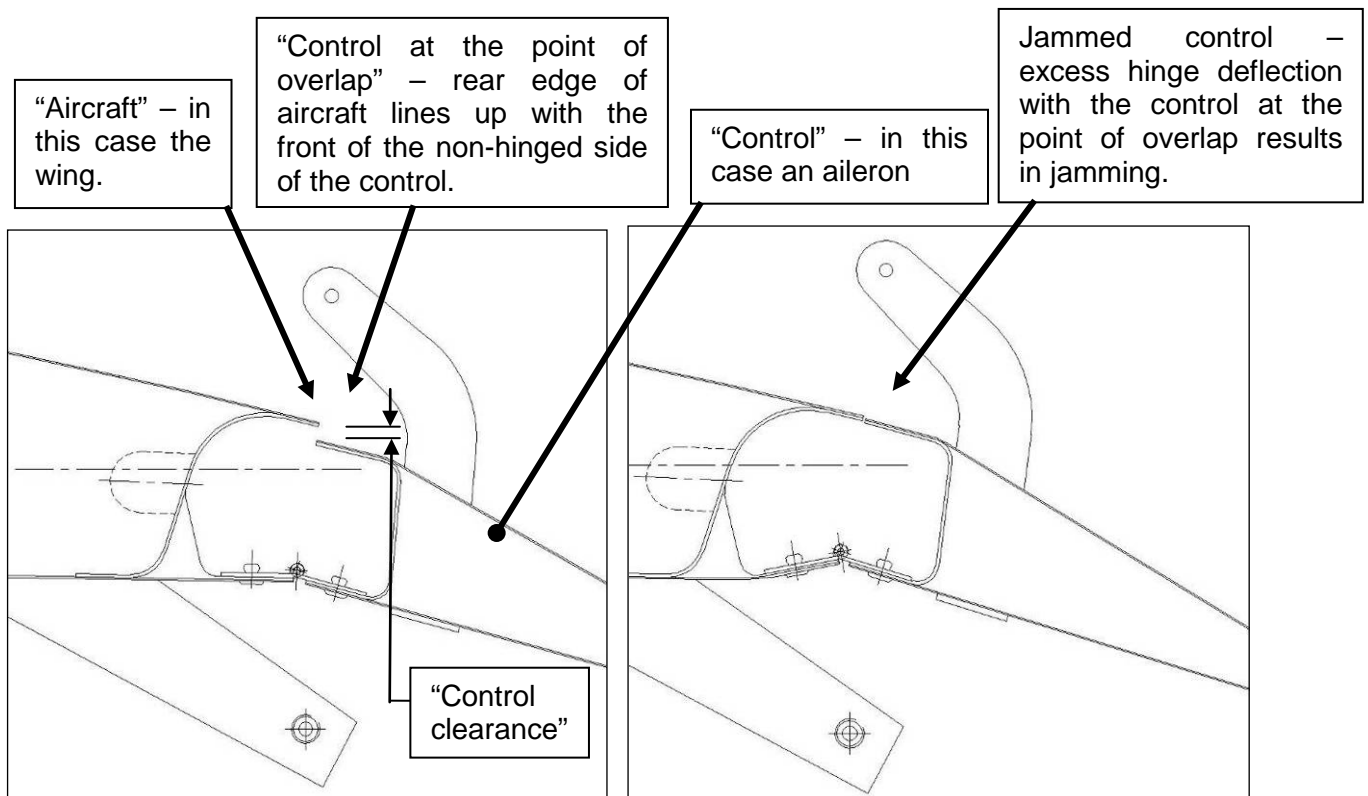

Figure 11 – Normal and Jammed Control Illustration
- In Figure 11 several terms are defined. This is provided to clarify the statements given in the remainder of this inspection.
- **Aircraft** – This refers to the fixed part of the aircraft immediately in front of the controls. In particular it refers to the point indicated in Figure 11, where the control will hit the aircraft if a jam occurs.
- This inspection is to check if the controls are configured in such a way that there is a point of overlap as shown in Figure 11. At noted above the point of overlap is the critical point at which severe control jamming becomes possible.